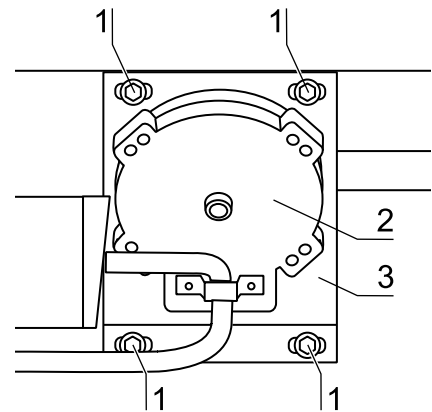

Fig. 35
1. **Fig. 35:** Loosen the motor mounting bracket [3] at the mounting frame. Loosen the four retaining screws [1] so far that the retainer is free to move.